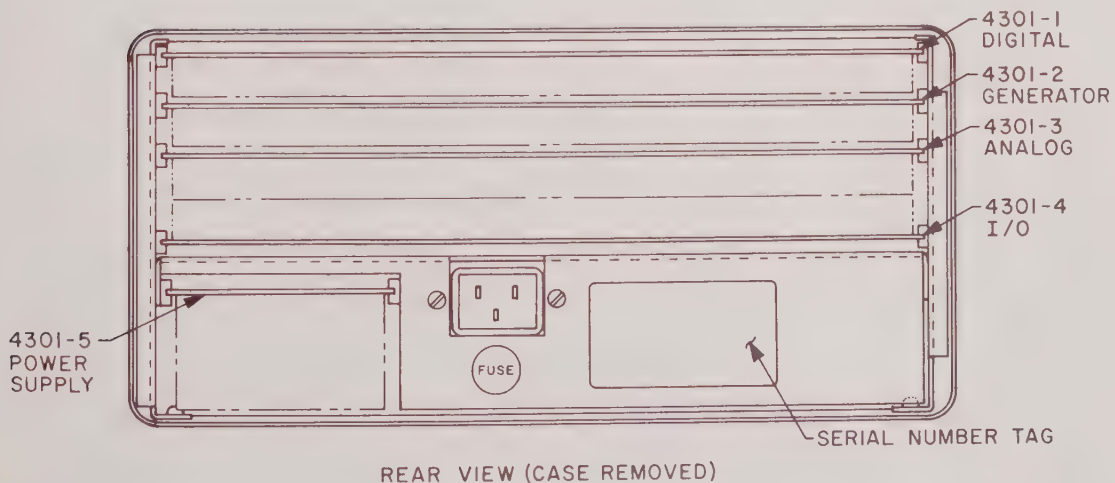

Figure 15. Model 43-01 PC Board Identification
14.02 As shown in Figure 15, the Model 43-01 contains the following boards: